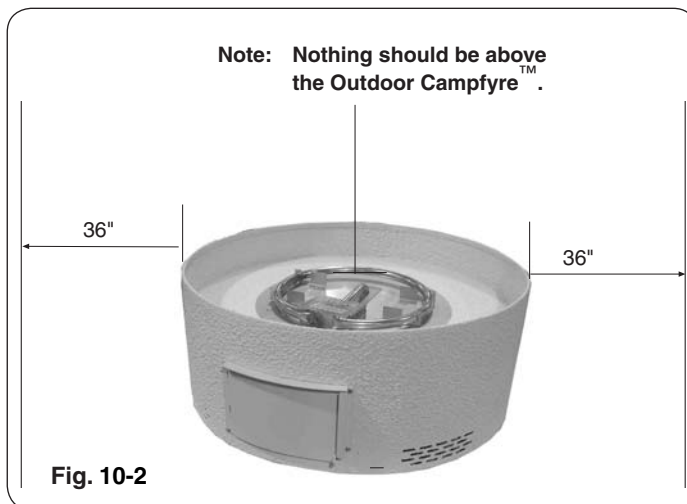

Fig. 10-2
- Sidewalls: 36" from side of surround opening (Fig. 10-2)
The dimensions shown in Fig. 10-2 are **MINIMUM CLEARANCES** to maintain when you install this Outdoor Campfyre™. **ALL SIDES** of the enclosure opening **MUST BE AT LEAST 36"** from any combustible side walls. The unit **MUST NOT BE** installed under any type of ceiling or overhang.